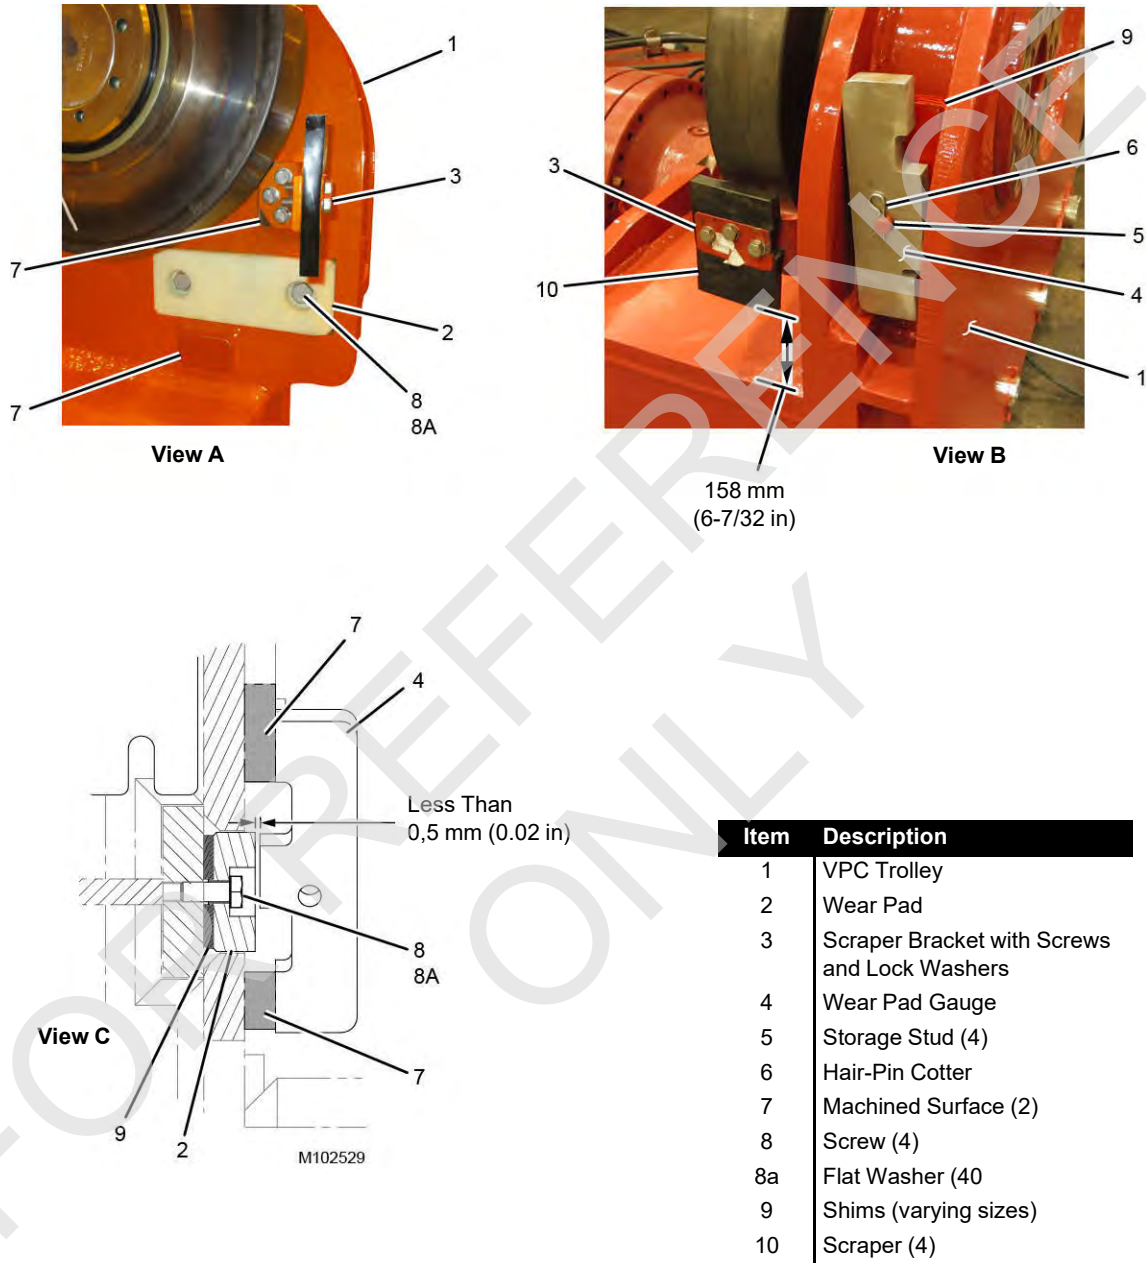

Figure 4-44
See Figure 4-44 for the following steps.
- a. Watch the scrapers (see Figure 4-44 on page 4-60) as the trolley is driven forward. If necessary, adjust the scrapers so they are touching the roller paths.